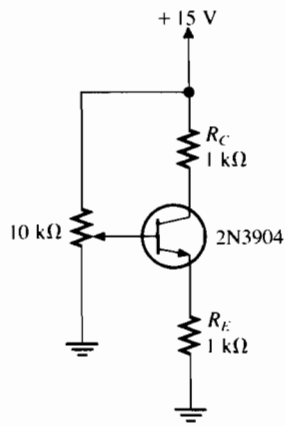

FIGURE 11-2 Schematic diagram from Step 8.
8. Using transistor #2, disconnect power from the breadboard and replace resistors R_1 and R_2 with a 10-kΩ potentiometer, as shown in Figure 11-2.